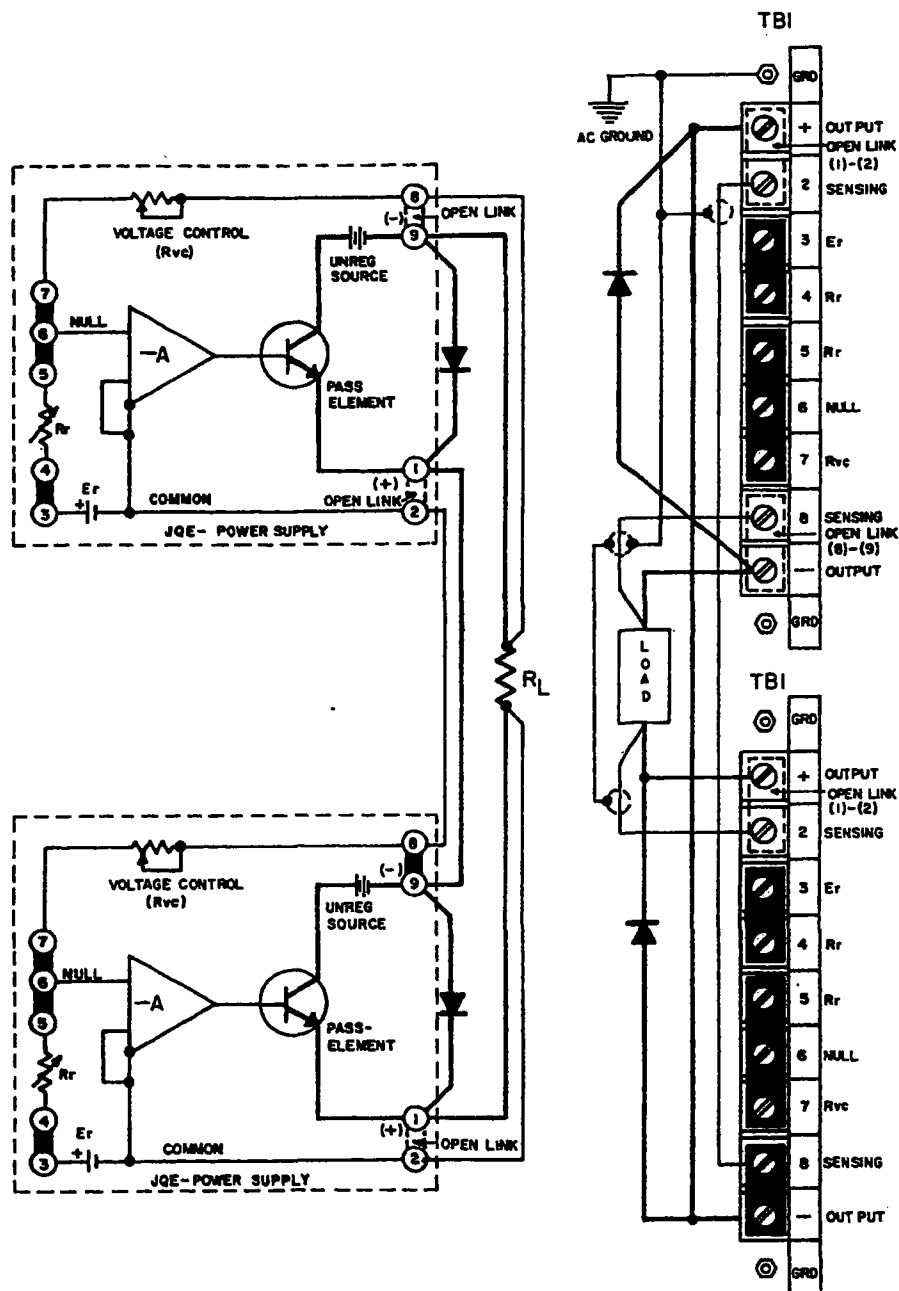

FIG. 3-11 AUTOMATIC SERIES CONNECTION OF JQE POWER SUPPLIES
3-35 GENERAL. Kepco JQE Power Supplies can be series-connected for increased voltage output, provided the specified limits on voltage to chassis are not exceeded. When series-connected, the supplies should be protected by means of a semi-conductor diode across the output terminals of each power supply, as shown in FIG. 3-11. The peak inverse rating of these diodes must be at least as large as the output voltage of the supply to which they are connected. The continuous current rating of the diodes should be at least as great as the maximum output current of the interconnected supplies.
- Connect load as shown in FIG. 3-11. Keep voltage drop in load wires as low as practical by using heavy gauge wire.
3-37 An alternate method of series-connecting two or more power supplies is shown in FIG. 3-12. The basic difference between the "Automatic" series connection, shown in FIG. 3-11, and the "Master-Slave" connection (FIG. 3-12) is that with the former connection the outputs of both supplies may be controlled or programmed individually, while with the latter method only the "Master" supply is controlled, while the "Slave" supply follows the command of the "Master" in a ratio which may be pre-determined by the user. The "Master-Slave" series connection is therefore often termed an "Automatic Tracking" configuration.